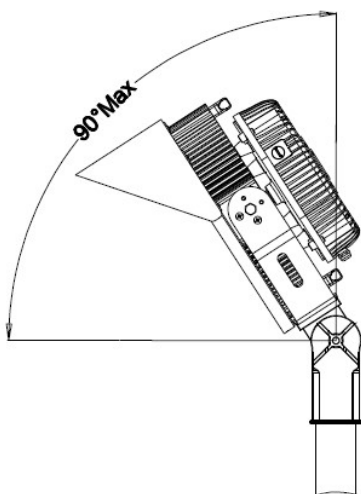
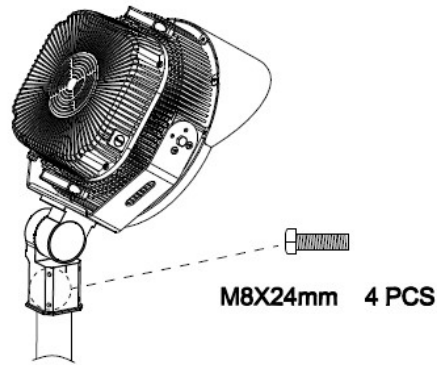

FIG.30
FIG.33
- 1) Align slip fitter bracket with U shape bracket, use 2pcs M8*24mm bolts and nuts to fix them. Use 4pcs M8*24mm bolts to fix slip fitter bracket on the pole. (See FIG.30 to FIG.33)